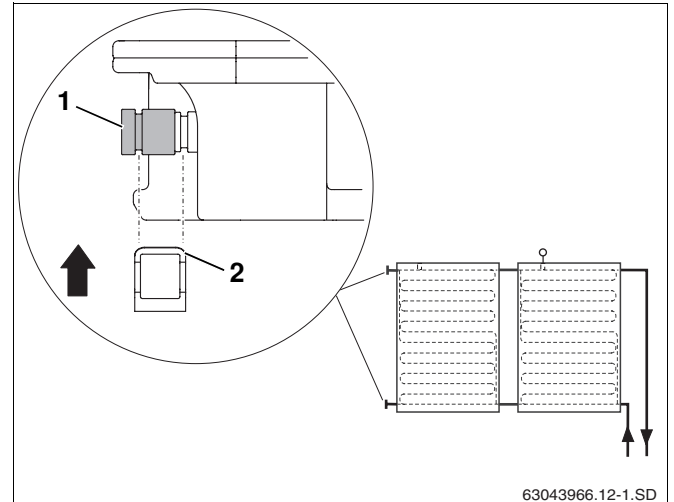

Fig. 39 Securing end cap with bracket
- Push end cap with the O-rings (Fig. 39, **Item 1**) onto the collector connection.
- Push bracket (Fig. 39, **Item 2**) over the end cap and collector connection to secure the connection.